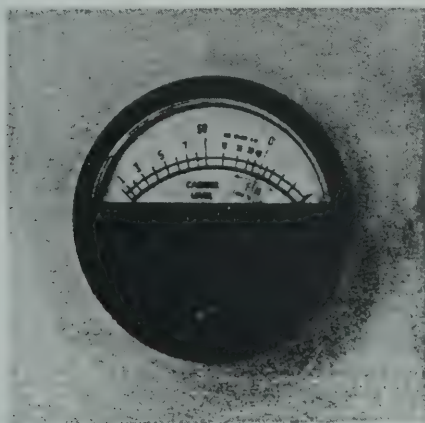

Figure 7. View showing Carrier Meter
6. Now tune in stations by tuning with the main control knob. (See Fig. 6.) As the station is tuned in, the carrier meter needle (See Fig. 7) will move from the left side of the scale to the